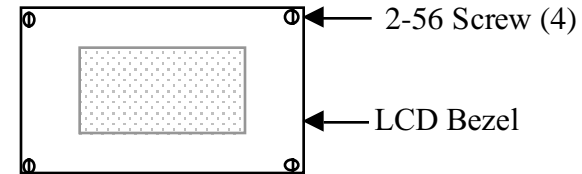

Figure 5-11
- Position the clear plastic LCD bezel over the large LCD opening, then secure it with four 2-56 screws (stainless steel) as shown in Figure 5-11. *Tighten the 2-56 screws only the amount needed to hold the bezel to the front panel. Over-tightening may crack the bezel or strip the threaded holes in the panel.*